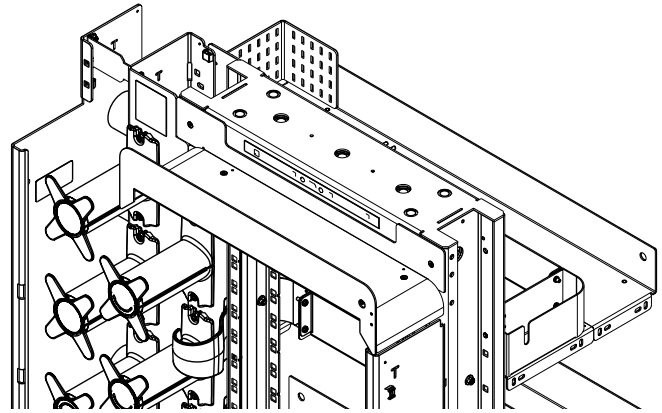

Figure 6
**Step 10:** If your standard local installation practice requires the rack to be supported from the top (Figure 6), use a 12.7 mm (1/2-in) diameter J-bolt or threaded rod to secure the rack to the overhead support. This hardware is not provided but is available from your overhead rack supplier.